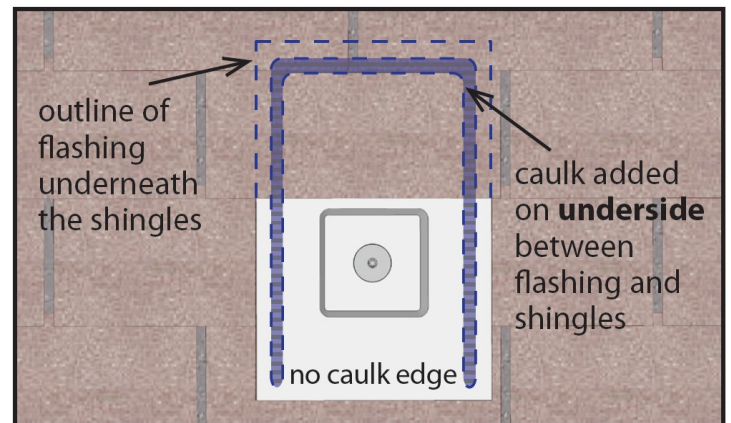

Fig. 4
5. Carefully install the flashing under the shingle row above base plate with the required coverage and align the center hole over the threaded hole in the base plate. Install a bead of caulk on the underside of the Flashing at the top and side edges prior to installing. Caulking locations shown in figure 4, are between flashing and shingles below flashing.